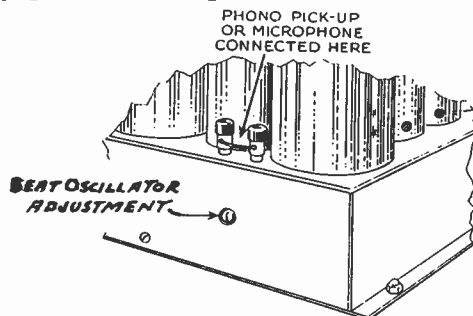

Fig. 15
Tune in a station on the short waves, then depress the Beat Oscillator button and adjust the screw in the back of the chassis (see Fig. 15) indicated as the "Beat Oscillator Adjustment" - until a whistle is heard from the speaker. Now, by turning the screw driver one way or the other, the pitch of the whistle can be adjusted to suit your ear.
- 4 - Be sure the little jumper wire is connected across the phono binding posts on the rear of chassis. (See Fig. 15).